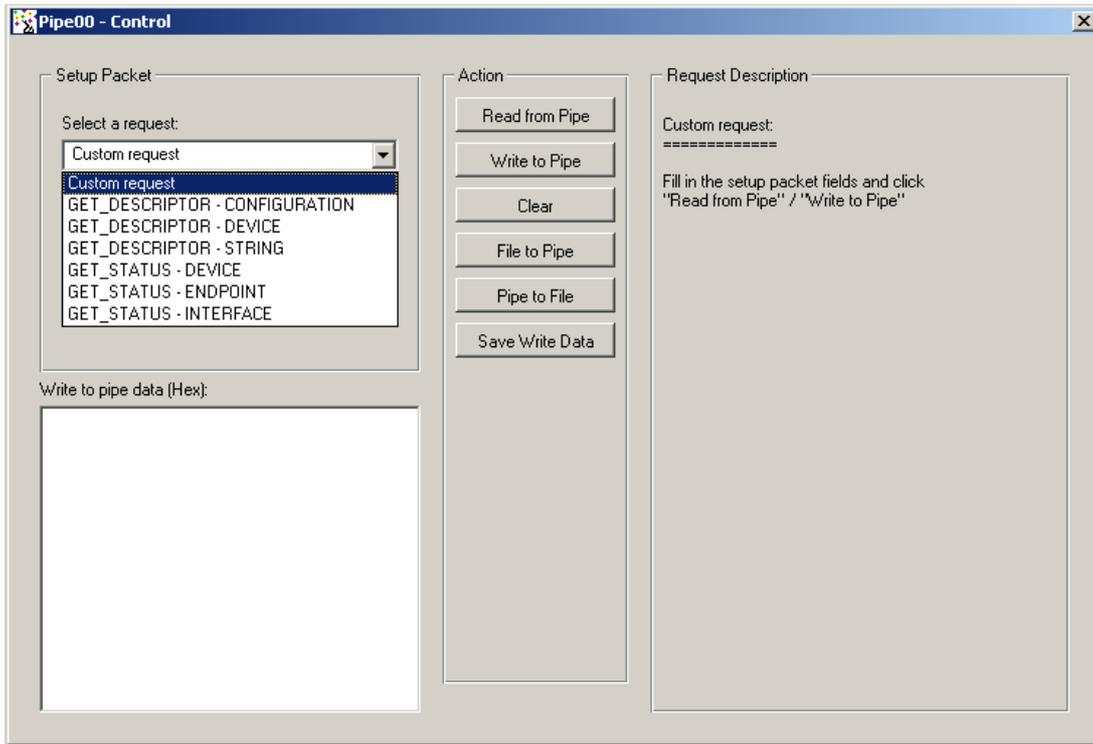

Figure 9.4: Request List
- For a standard USB request: select a USB request from the requests list, which includes requests such as **GET\_DESCRIPTOR CONFIGURATION, GET\_DESCRIPTOR DEVICE, GET\_STATUS DEVICE**, etc. (see Figure 9.4). The description of the selected request will be displayed in the **Request Description** box on the right hand of the dialog window.